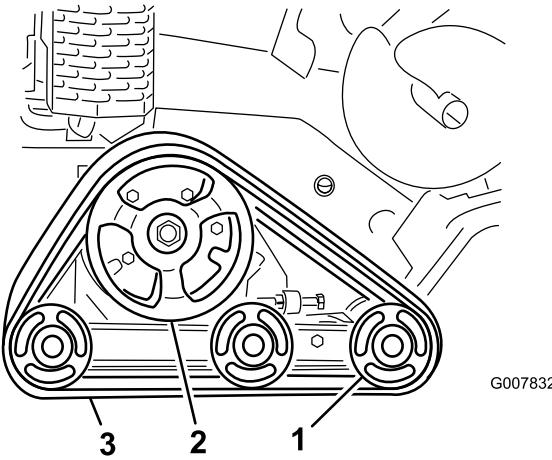

Figure 47
**Important:** Ensure that you fully clean the road wheels and the drive sprocket (Figure 47).